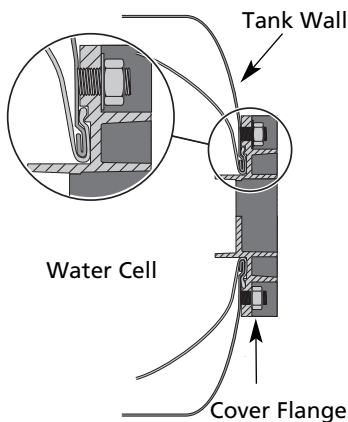

Figure 28 – Proper Installation and Seating
11. Clean sealing surface and groove of cover flange; place on tank (see Figure 28).